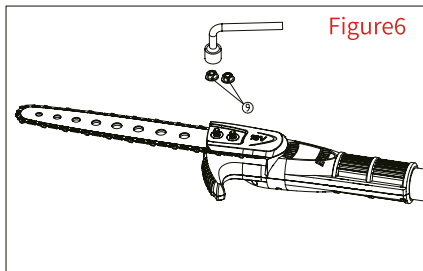

Figure6
- (7) As shown in Figure 6, the M6 hex nuts (9) are inserted into the bar fixing bolts and tightened with a socket wrench. The recommended torque is 8~12N.m.